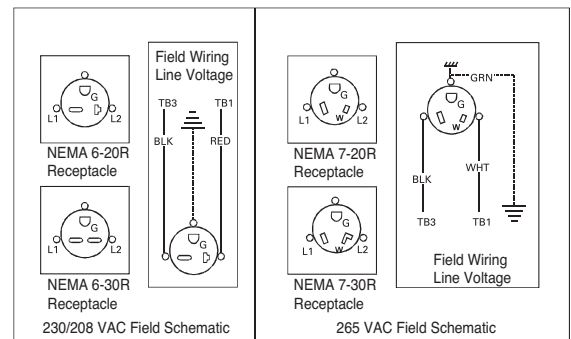

Figure 3
6. Take electrical junction box cover off and use field supplied wire nuts to connect power to receptacle wires. See Figure 3.